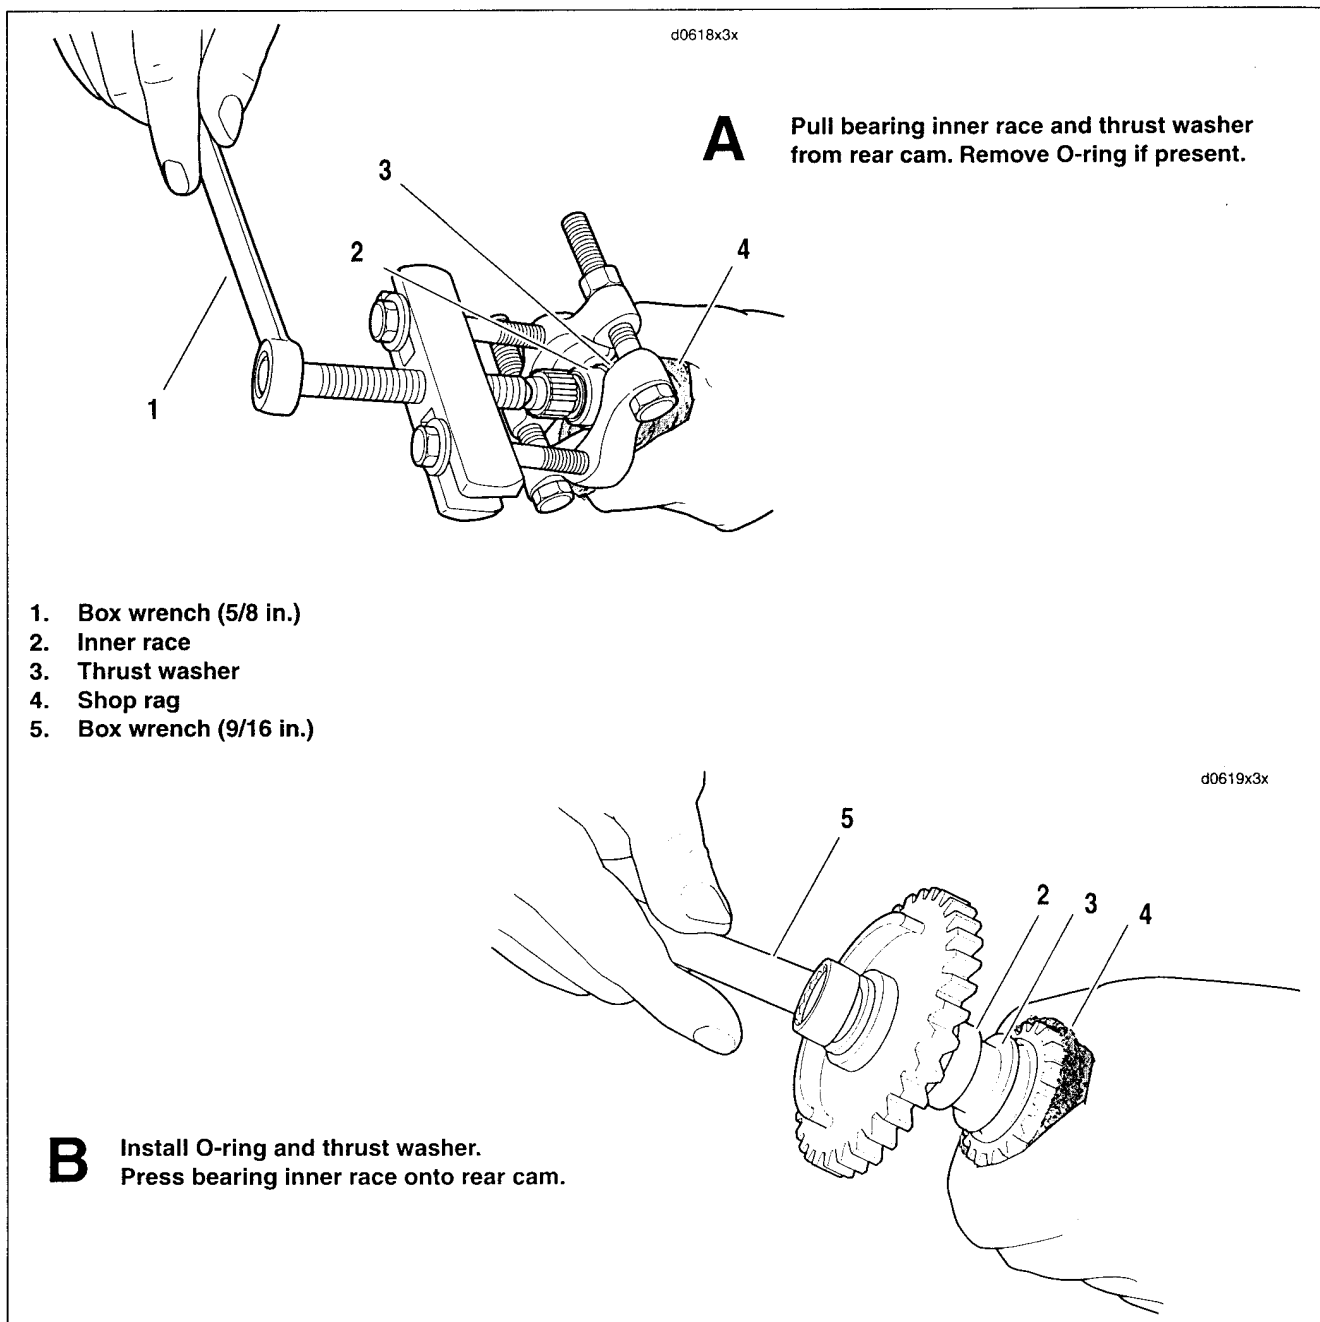

Figure 3-134. Remove/Install Bearing Inner Race (With O-Ring and Thrust Washer) Onto Rear Camshaft
- d. See A of Figure 3-134. Using a 5/8 in. box wrench (1), turn forcing screw until bearing inner race (2) and thrust washer (3) are pulled free of camshaft. A light interference fit allows the parts to be removed with little effort. Discard inner race and thrust washer.